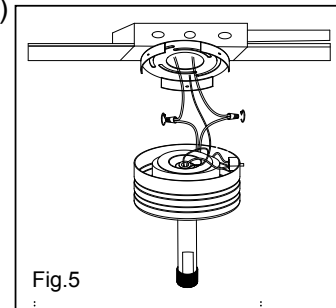

Fig.5
Step 5-1. Connect the white (neutral) wire from the transformer to the white wire from the junction box . use a wire nut to secure the connection.(Fig.5)
Step 5-2. Connect the black (hot) wire from the transformer to the black wire from the junction box use a wire nut to secure the connection. (Fig.5)